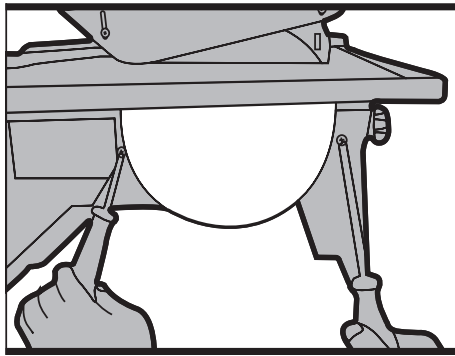

Fig 9
2. Remove the blade guard cover by loosening the two screws. See fig9.